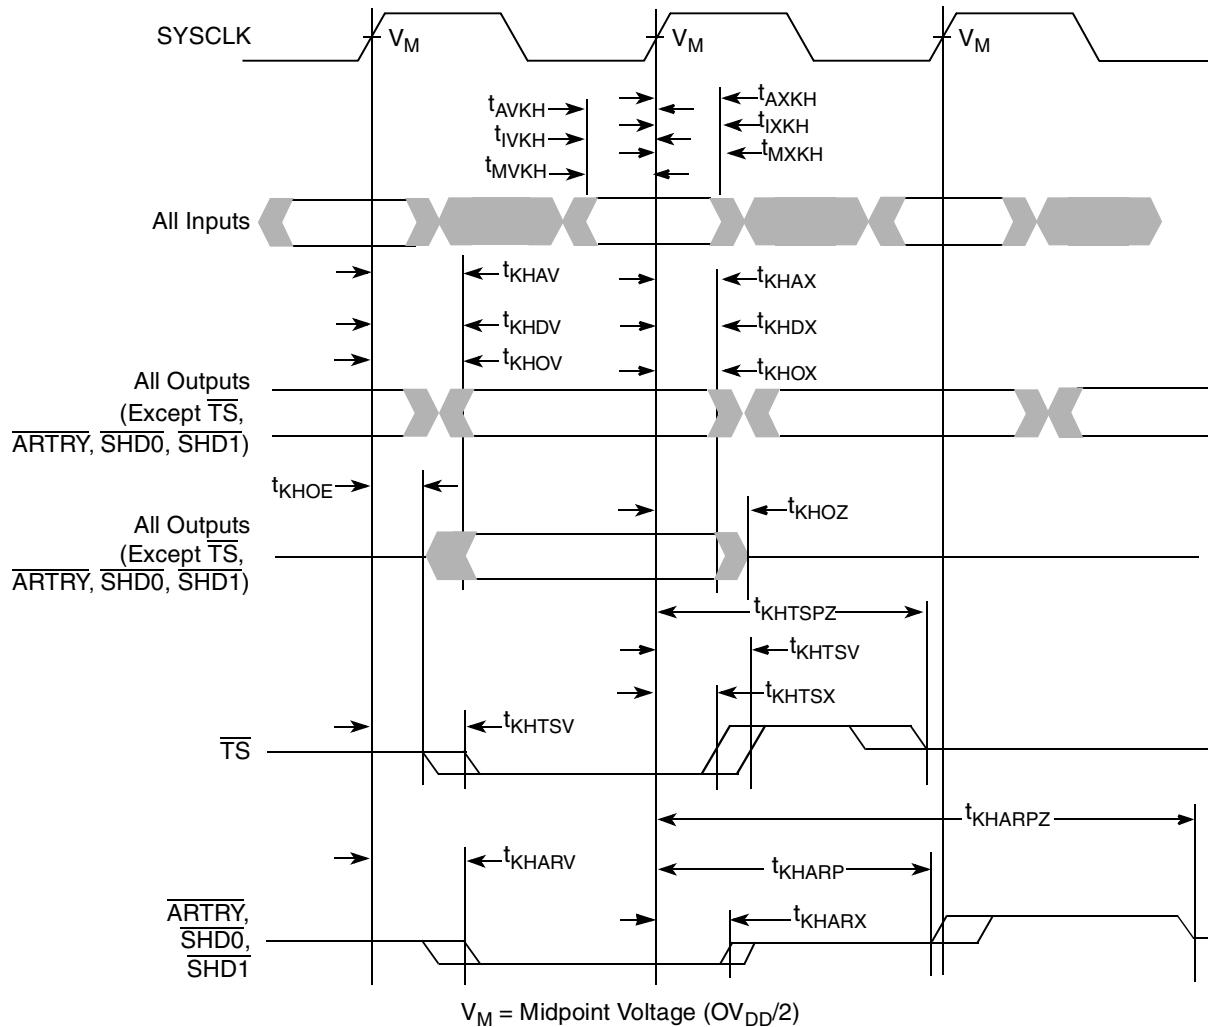

Figure 6. Input/Output Timing Diagram
2. The symbology used for timing specifications herein follows the pattern of $t_{(\text{signal})(\text{state})(\text{reference})(\text{state})}$ for inputs and $t_{(\text{reference})(\text{state})(\text{signal})(\text{state})}$ for outputs. For example, t_{VKH} symbolizes the time input signals (I) reach the valid state (V) relative to the SYSCLK reference (K) going to the high (H) state or input setup time. And t_{KHOV} symbolizes the time from SYSCLK(K) going high (H) until outputs (O) are valid (V) or output valid time. Input hold time can be read as the time that the input signal (I) went invalid (X) with respect to the rising clock edge (KH) (note the position of the reference and its state for inputs) and output hold time can be read as the time from the rising edge (KH) until the output went invalid (OX).
4. According to the bus protocol, $\overline{\text{TS}}$ is driven only by the currently active bus master. It is asserted low and precharged high before returning to high impedance, as shown in Figure 6. The nominal precharge width for $\overline{\text{TS}}$ is $0.5 \times t_{\text{SYSCLK}}$, that is, less than the minimum t_{SYSCLK} period, to ensure that another master asserting $\overline{\text{TS}}$ on the following clock will not contend with the precharge. Output valid and output hold timing is tested for the signal asserted. Output valid time is tested for precharge. The high-impedance behavior is guaranteed by design.
6. According to the bus protocol, $\overline{\text{ARTRY}}$ can be driven by multiple bus masters through the clock period immediately following AACK. Bus contention is not an issue because any master asserting $\overline{\text{ARTRY}}$ will be driving it low. Any master asserting it low in the first clock following AACK will then go to high impedance for 1 clock before precharging it high during the second cycle after the assertion of AACK. The nominal precharge width for $\overline{\text{ARTRY}}$ is $1.0 t_{\text{SYSCLK}}$; that is, it should be high impedance as shown in Figure 6 before the first opportunity for another master to assert $\overline{\text{ARTRY}}$. Output valid and output hold timing is tested for the signal asserted. The high-impedance behavior is guaranteed by design.
Figure 6 provides the input/output timing diagram for the MPC7447A.